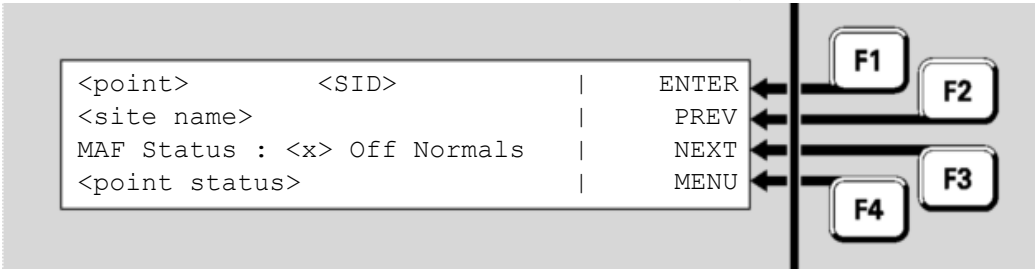

Fig 9-7 – MAF Status Display
247.SID.1 to display the MAF Status – See Fig 9-7
The format of the MAF Status display is shown in Figure 9-7.
- **MENU**←**F4** to display the default menu (as per Figure 9.7).